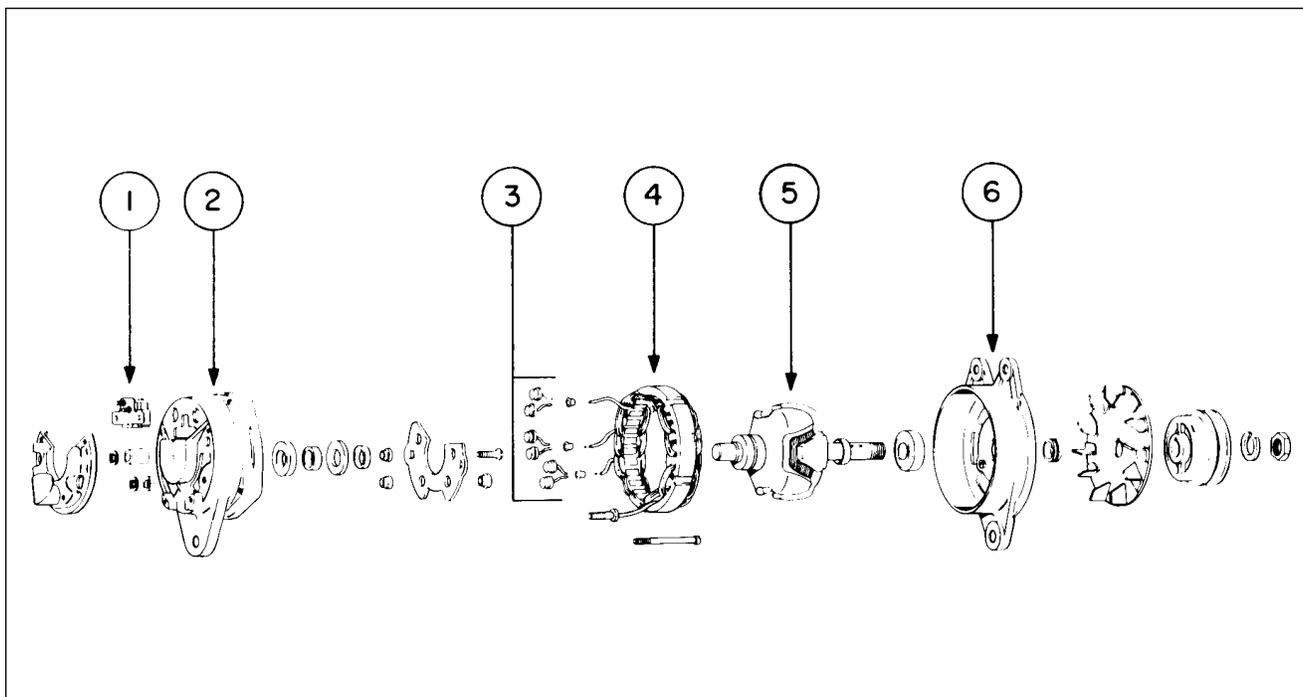

Figure 24-28. Exploded View of Alternator (Prestolite)
**DESCRIPTION OF ALTERNATOR.** (Refer to Figure 24-28.)